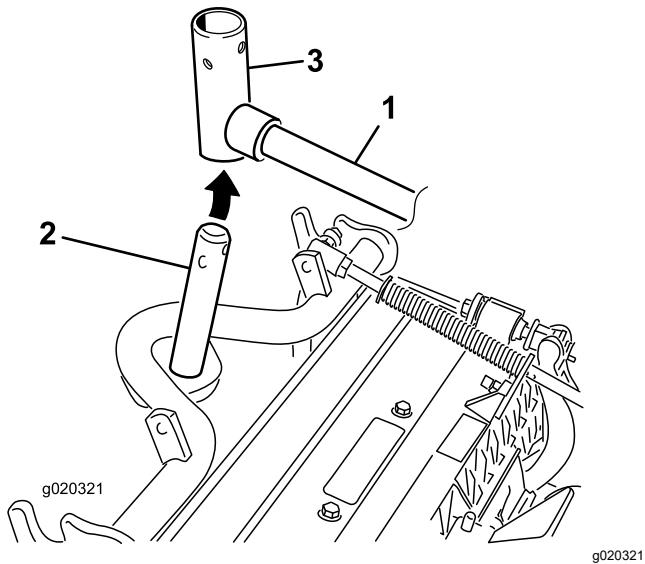

Figure 10
9. For the front cutting units, slide a cutting unit under the lift arm while inserting the carrier frame shaft up into the lift-arm pivot yoke (Figure 10).
B. Insert the lift-arm yoke onto the carrier frame shaft (Figure 10).